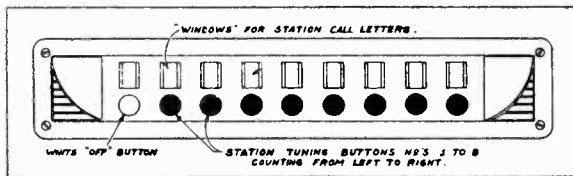
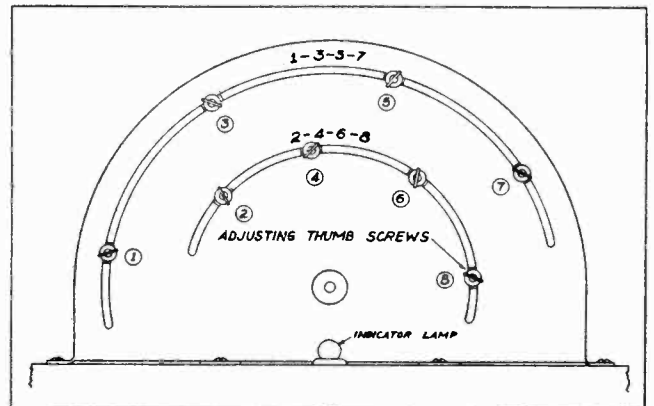

Fig. 1
Fig. 2
The first step to take in adjusting the electric push button device incorporated into this receiver is to choose eight (8) of the most powerful local stations, stations which are free from excess fading. Turn on the receiver (broadcast band) and press in the white button; tune in the station of the **lowest frequency**, using the station selector knob. Now hold the white button in and press in button number one (1), next to the white button. (See Figure 1). Both buttons are now locked into place; a small pilot lamp located at the rear of the chassis will light up unless the thumb screw at the rear accidentally happens to be correctly set. Loosen thumb screw number one (See Figure 2 for order of thumb screws) enough to allow it to slide freely back and forth until the light goes out. Now tighten the thumb screw; the adjustment for the first station is now complete. Out of the station call letter sheet supplied remove the proper station call block and insert into the window directly above button number one. Now release button number one by pressing the white button in as far as it will go.
With the white button still in, tune in the station of the next highest frequency and holding the white button, press in button number two. Both buttons are now locked into place. Loosen thumb screw number two (see Figure 2) and slide back and forth until a point is reached at which the pilot lamp in the rear goes out; tighten the thumb screw. Insert the proper station call into the window of button number two.